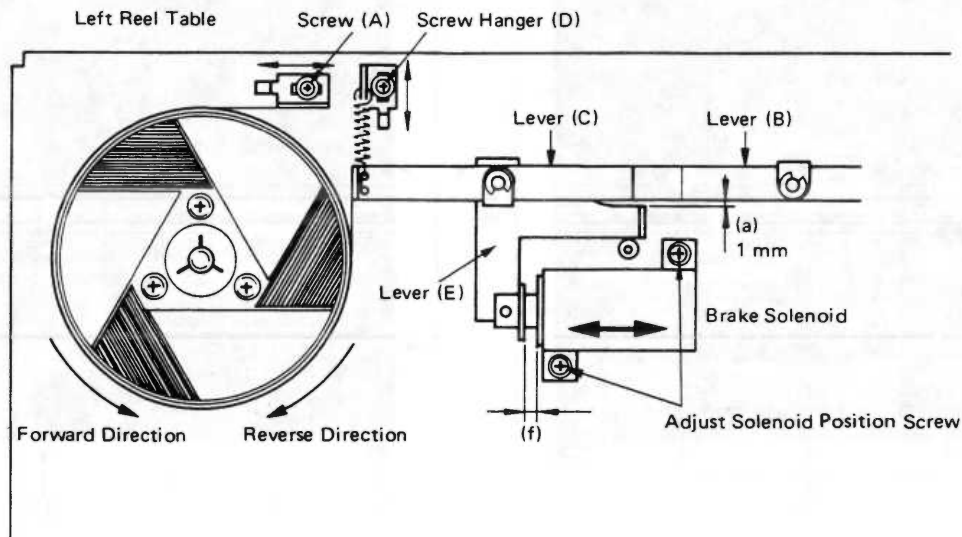

Fig. 2-2.
1. Screw (A) for the left brake (as viewed from the front) must be adjusted so that there is a clearance (a) of 1 mm between lever (C) and lever (E). Screw (A) for the right brake must then be adjusted so that lever (B) is parallel to lever (C). See Fig. 2-2.
- If the forward-direction torque is not correct, change the hooking position of the spring hanger (reference (D) in Fig. 2-2) for the corresponding brake requiring adjustment. If, after the forward-direction torque has been properly adjusted, the reverse-direction torque is not correct, or the forward-direction torque is still not correct, replace the brake felt pad with a new one after cleaning the inner side of the brake band with a cleaning alcohol, and also check that the brake mechanism is properly aligned as explained in Section 2-4, "Brake Mechanism". If necessary, replace the entire reel table.